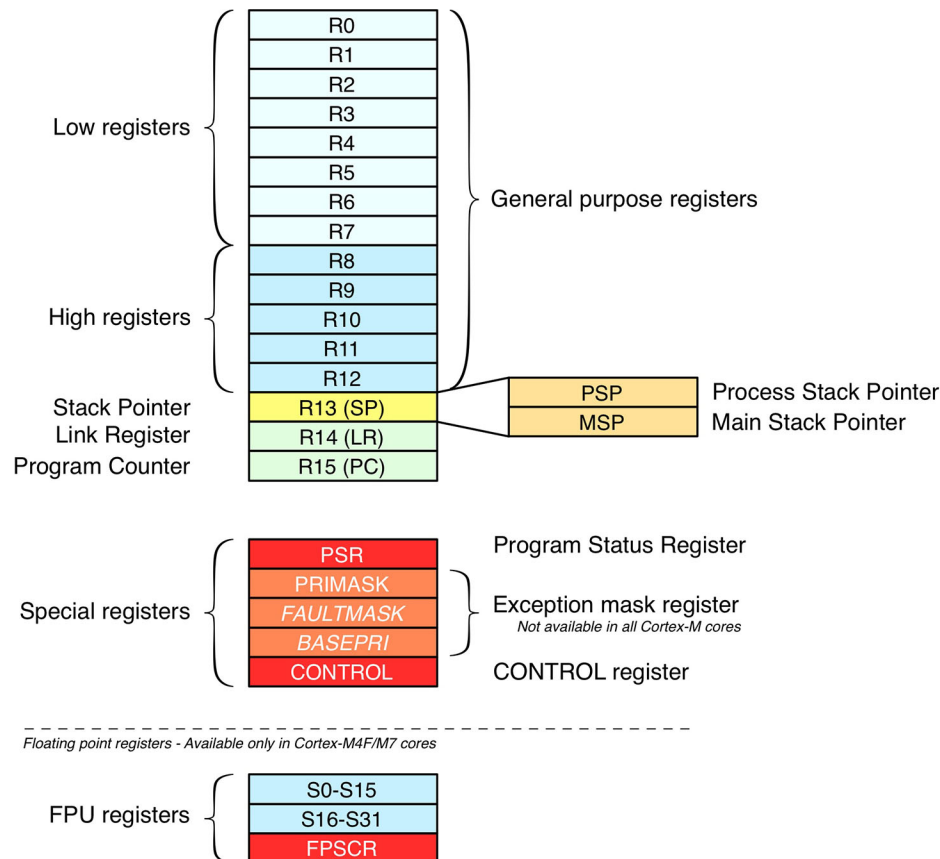

Figure 1.2: ARM Cortex-M core registers
Figure 1.2 shows the core Cortex-M registers. Some of them are available only in the higher performance series like M3, M4 and M7. R0-R12 are general-purpose registers and can be used as operands for ARM instructions. Some general-purpose registers, however, can be used by the compiler as registers with *special functions*. R13 is the *Stack Pointer* (SP) register, which is also said to be *banked*. This means that the register content changes according to the current CPU mode (privileged or unprivileged). This function is typically used by Real Time Operating Systems (RTOS) to do context switching.